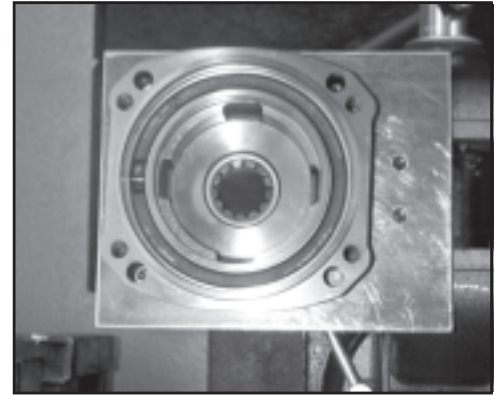

Figure A1
1. Place front brake housing case (front half) on a suitable work platform with the needle bearing down. Support the case in such a way that it allows room for the shaft to protrude out the bottom. Make sure that the unit is secured. If radial bearing is not being replaced skip to step 3. SEE FIGURE A1